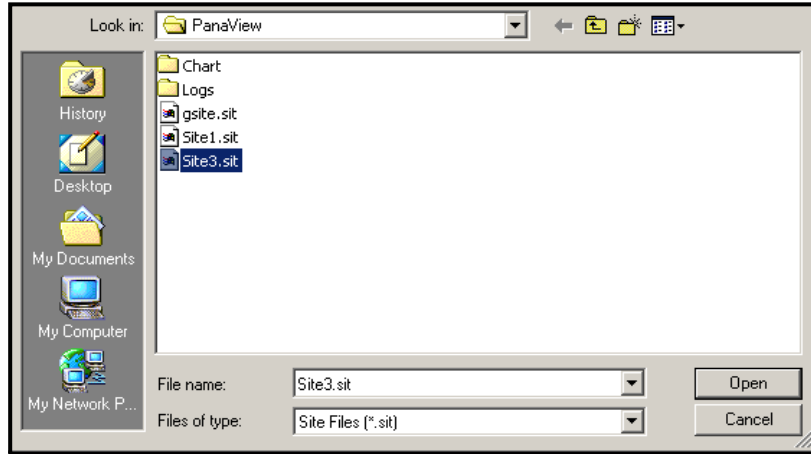

Figure 31: Site File Selection
2. Then click on the *Save Site to Meter* button. A screen opens similar to Figure 31 below.
3. The *Site File Selection* window (Figure 31 on page 99) opens. Highlight a site with the desired settings, and click [Open]. PanaView saves the site in the meter with the new name and the desired settings.
3. The *Site File Selection* window (shown in Figure 31 on page 99) opens. Enter the desired site name (now with a .prt suffix) and click [Save]. PanaView displays a text version of the site, as shown in Figure 33 below.